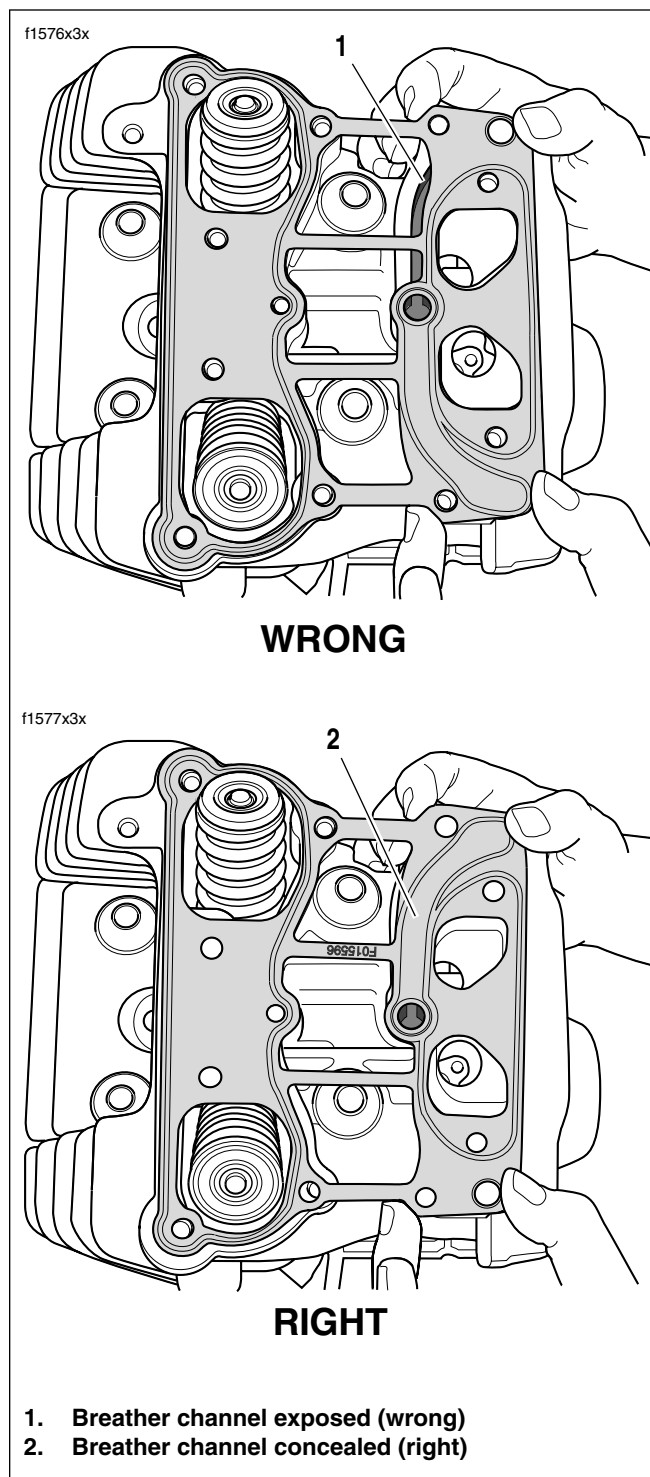

Figure 3-2. Rocker Housing Gasket
3. See Figure 3-2. Verify that the rocker housing gasket is installed correctly by noting that the breather channel is concealed.